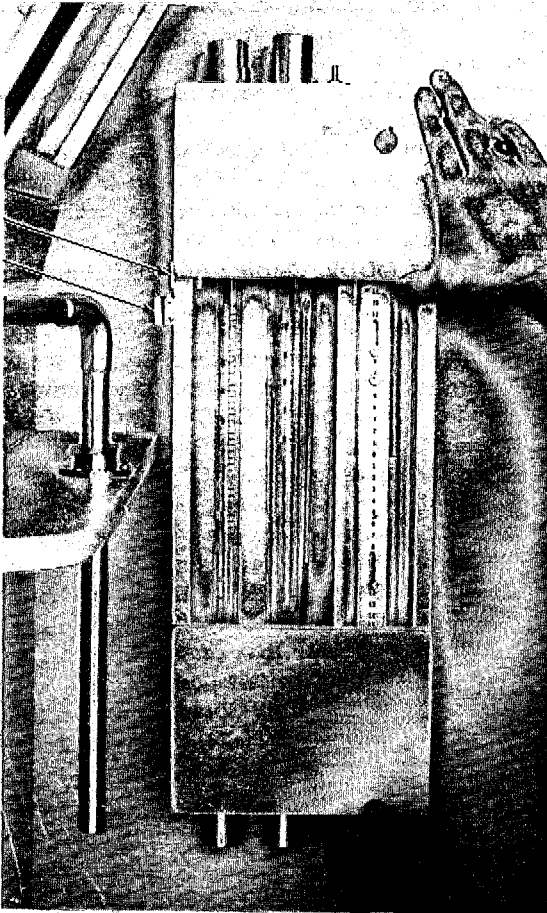

Figure 13 - Installing Calibration Equipment Box
C.14. Refer to Figure 13. Hold the calibration box against the Body Box wall and, at the same time, against the small shelf in front of the patient. Lower the assembly until it is locked in place on the hooks.